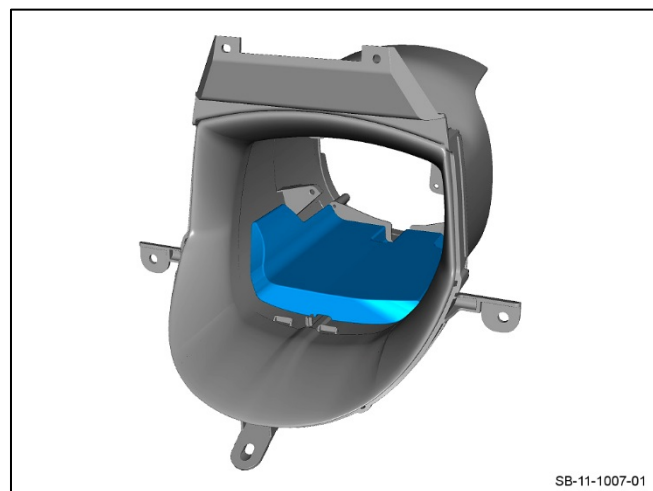

Figure 1
**Note:** *The old steering-column cowl has a foam part (refer to Figure 1). The new steering column cowl does not need a foam part. When you remove the old steering column cowl, do not install the foam to the new steering column cowl.*